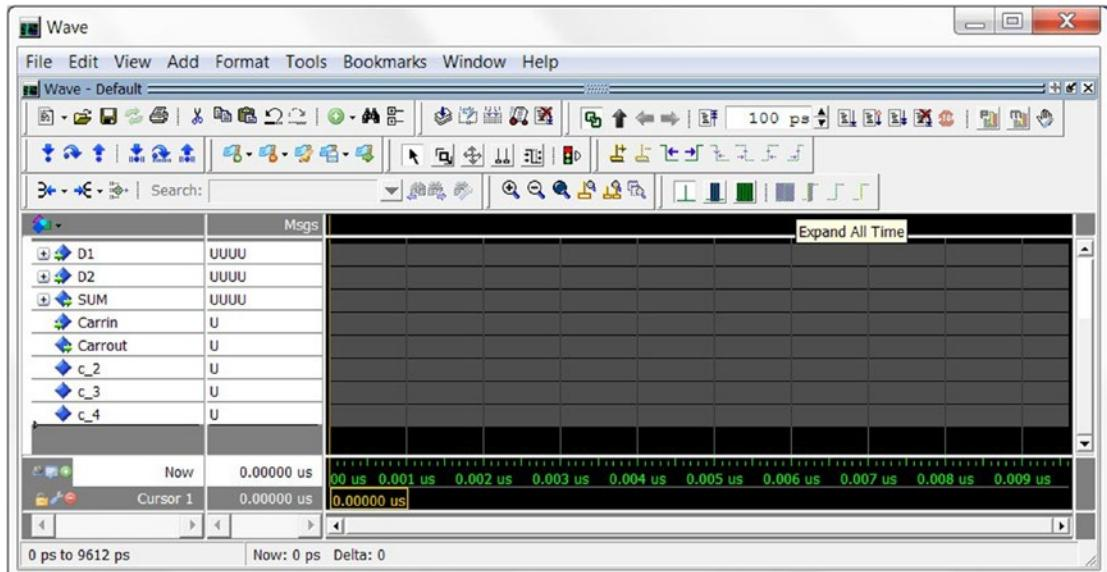

Figure 8-22. 4-bit adder simulation wave windows
7. Type **add wave -position insertpoint sim:/four_bit_adder/*** in the transcript box. The wave windows should show as Figure 8-22.